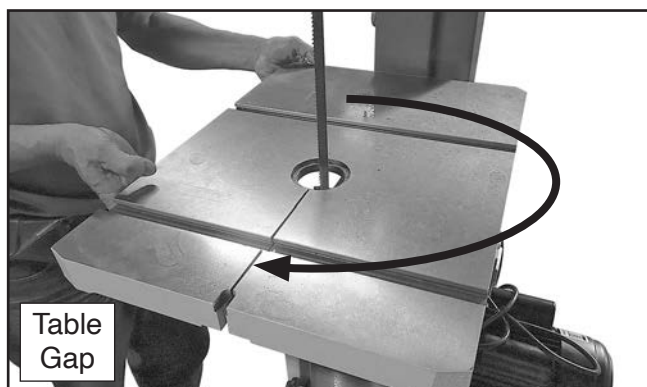

Figure 26. Table rotated with gap facing right.
4. Carefully position table so gap faces to the right (see **Figure 26**).